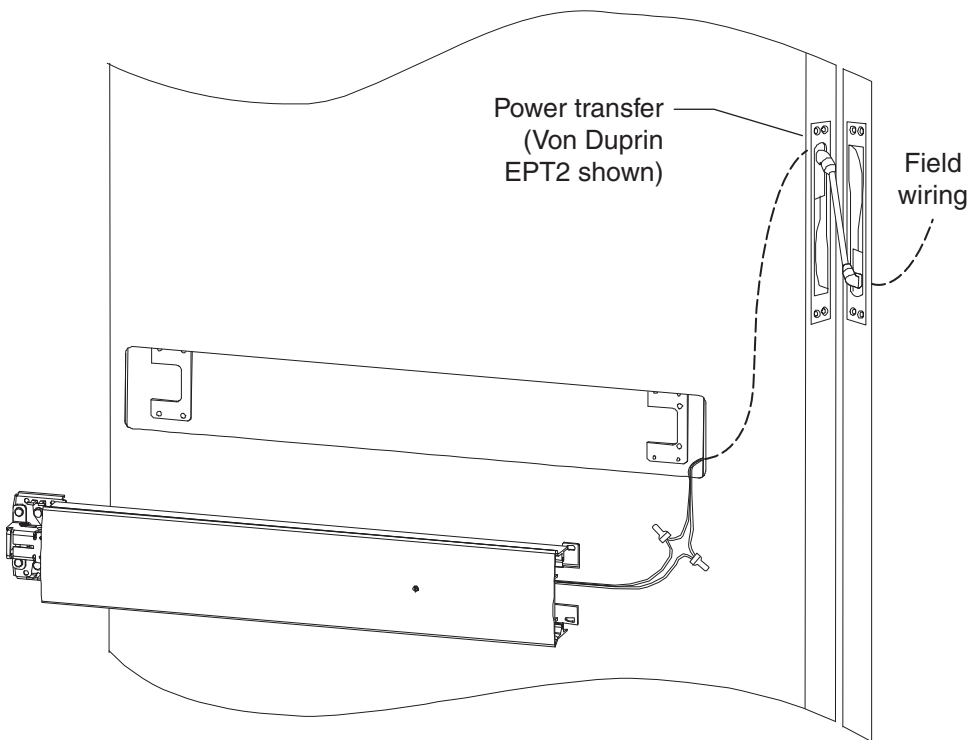

Figure 3-1
- Connect field wiring to frame side of power transfer (Figure 3-1).